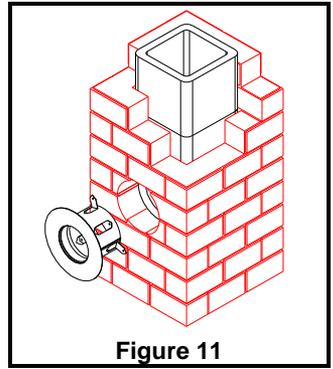

Figure 11
6. Install the Masonry Adapter (PAM). Bend the tabs outwards and press the Masonry Adapter firmly into the existing thimble into the masonry chimney (Figure 11). The tabs will secure it in place.